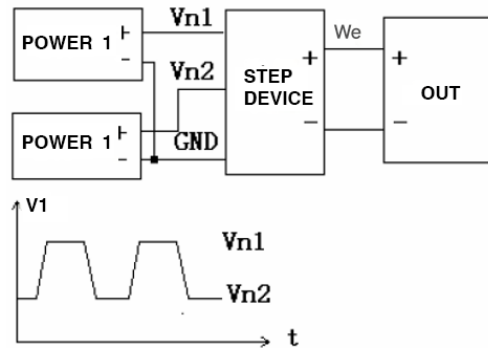

Figure A.5. Input jump device diagram
- The output power supply is applied to the input terminal through the analog integrated tester UCS, -500M and the jump device makes the input voltage V_{IL} and V_{IH} . The transitions between these states are shown in Figure A.5.